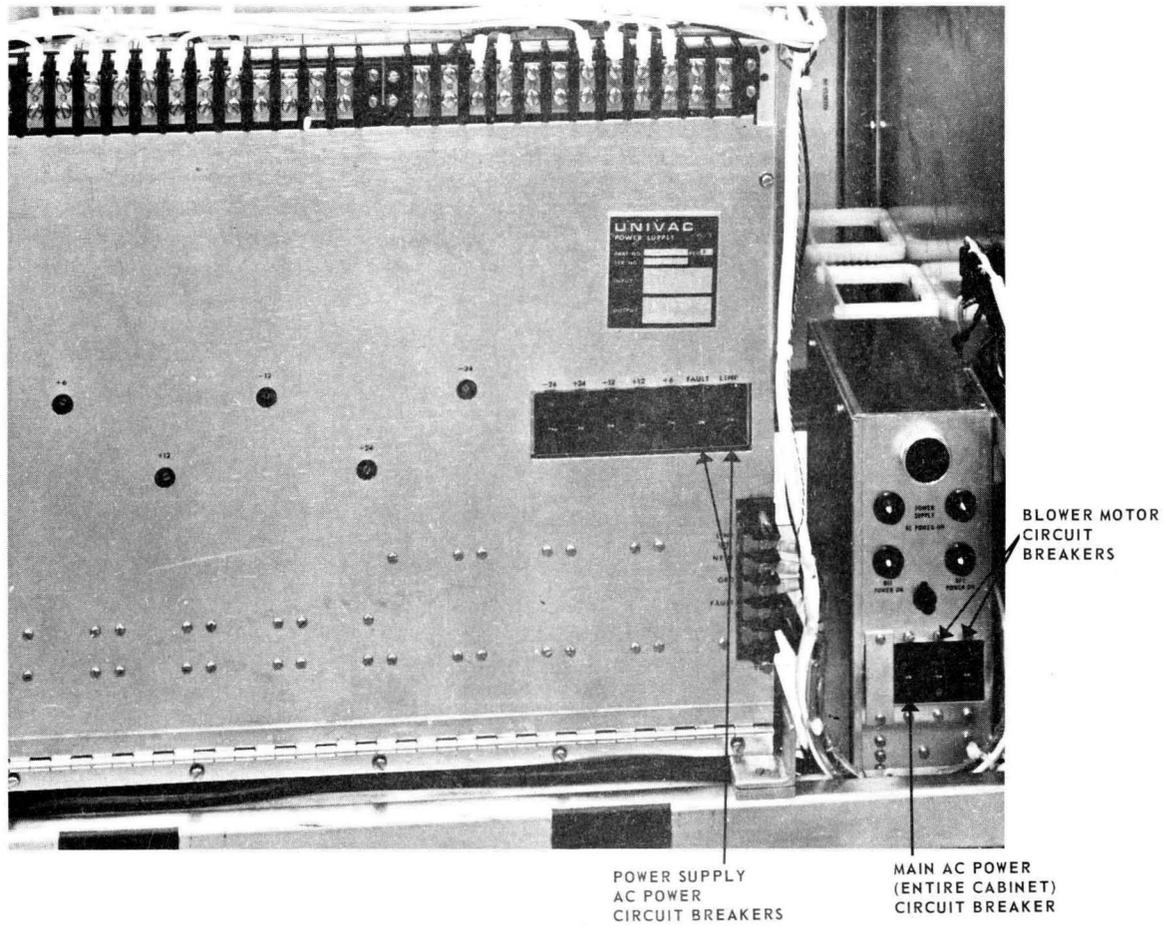
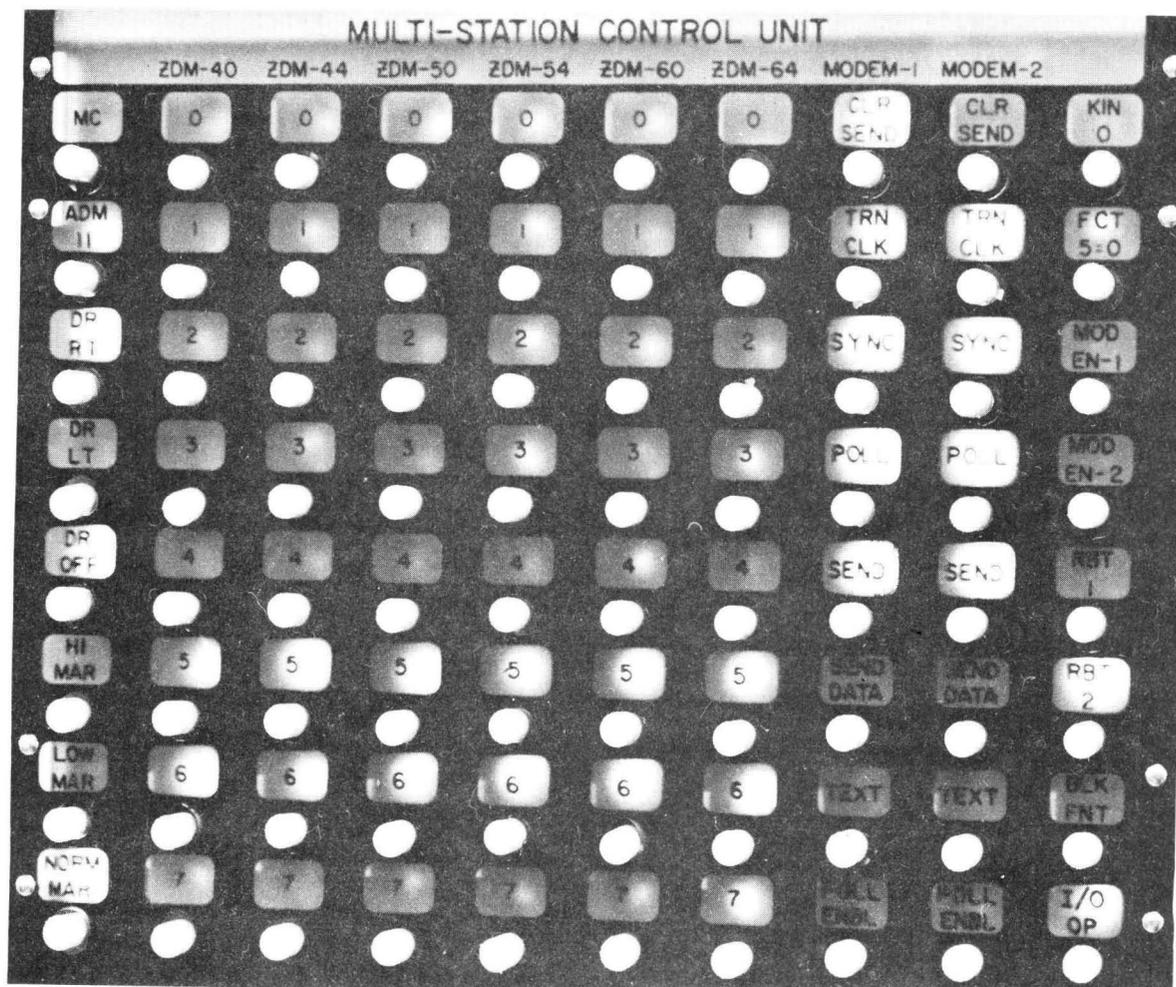

Figure 3-4. Multi-Station Control Unit Power Control Panel
Figure 3-5. Multi-Station Control Unit Status Indicator Panel
The Power Control Panel for the Multi-Station Control Unit is behind the rear door at the lower portion of the MSCU cabinet. (See Figure 3-4.) The voltage or circuit function associated with each of the ten circuit breakers and five indicators are illustrated in the figure.
The Multi-Station Control Unit Status Indicator Panel is located behind the front door at the upper portion of the MSCU cabinet. (See Figure 3-5.) The indicator panel provides status indications of the various logic circuits in the MSCU cabinet; associated push-button switches located directly beneath each indicator permits the applicable circuitry to be cleared (reset) when necessary. Because this panel is used primarily by UNIVAC maintenance personnel, no function description is given for the indicators and push-button switches. The operator uses this panel only when turning on the MSCU, as described in 4.2.3.
- (1) Open rear door of MSCU cabinet.
- (2) Turn on the unit by means of AC POWER ON circuit breaker (Figure 3-4). POWER SUPPLY AC POWER ON indicator should light.
- (3) Start blowers by pushing circuit breakers B1 and B2 ON. BO1 POWER ON and BO2 POWER ON indicators should light.
- (4) Operate FAULT and LINE circuit breakers to ON (up position).
- (5) Operate the circuit breakers for the DC supply, in the order presented, to ON (up position).
- (6) Close rear door and open front door of MSCU cabinet.
- (7) Momentarily press MC push-button switch (Figure 3-5) located in leftmost column of Status Indicator Panel. DR OFF indicator in the same column should light.
- (8) Momentarily press TEXT and POLL ENBL push-button switches located in columns marked MODEM-1 and MODEM-2.
- (9) Momentarily press DR RT push-button switch located in leftmost column of indicators. DR RT indicator should light and the DR OFF indicator should go out.
- (10) Close front door of MSCU cabinet.
In an emergency, when it is required to remove AC power from the MSCU, remove the AC power cord from the wall receptacle. If the wall receptacle is not accessible, open rear door of MSCU cabinet and turn off power by means of AC POWER ON circuit breaker (Figure 3-4). Under normal conditions, turn off the MSCU as described in steps (1) through (8).
- (1) Open front door of MSCU cabinet.
- (2) Momentarily press MC push-button switch (Figure 3-5). DR OFF indicator in leftmost column of indicators should light.
- (3) Close front door and open rear door of MSCU cabinet.
- (4) Operate the circuit breakers for the DC supply (Figure 3-4), in the order presented, to OFF (down position).
- (5) Operate FAULT and LINE circuit breakers to OFF (down position.)
- (6) Stop blowers by means of circuit breakers B1 and B2. B01 POWER ON and B02 POWER ON indicators should go out.
- (7) Turn off power by means of AC POWER ON circuit breaker. POWER SUPPLY AC POWER ON indicator should go out.
- (8) Close rear door of MSCU cabinet.